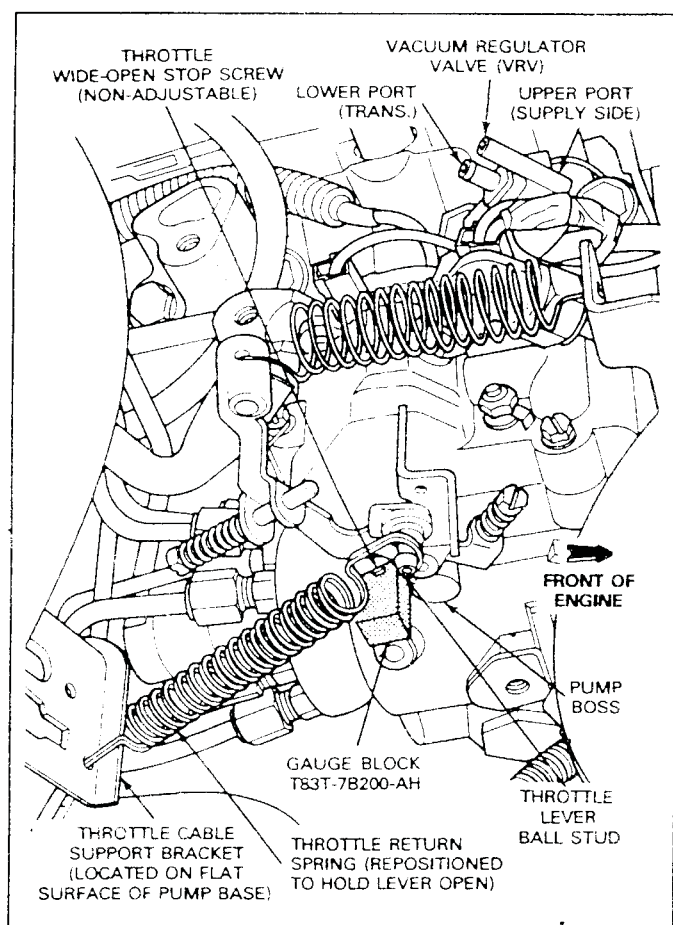

FIG. 7 VRV Gauge Block Installation
6. Apply 20 inches minimum of vacuum to the VRV and maintain. **It will be necessary to continually pump the vacuum up as it bleeds off (this is normal). Cycle the throttle lever 5 times from idle to WOT with vacuum applied.** Insert the gauge block, T83T-7B200-AH (0.515 inch), between the pump boss and the throttle wide-open stop (Fig. 7). The throttle return spring (F-Series), as repositioned in step 3 below, will hold the throttle lever stop against the gauge block (Hold throttle lever open on Econoline by other means). **The vacuum gauge attached to the lower port of the VRV should indicate 6-8 inches of vacuum. If the vacuum reading is not correct, adjust the VRV to achieve a reading of 7 inches ($\pm .5$) of vacuum.**